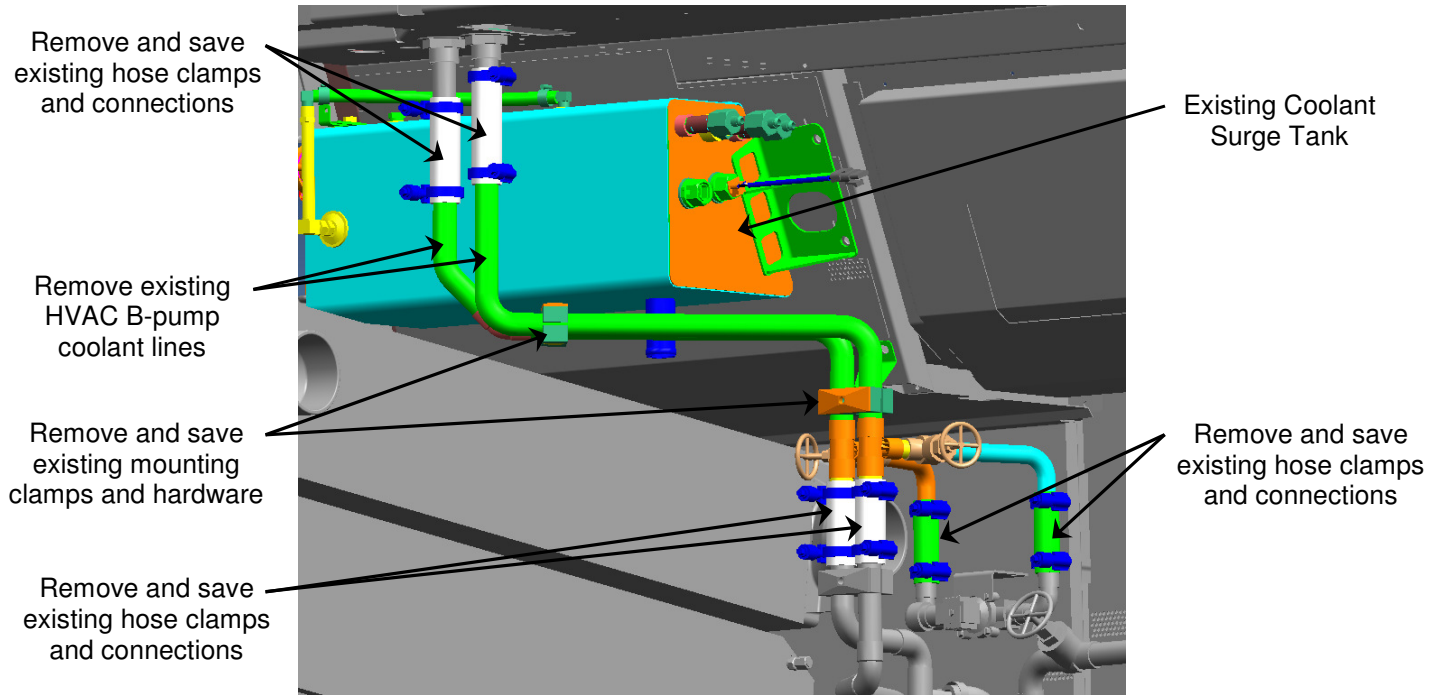

Figure 6: HVAC B-pump Coolant Line Removal
11. Remove and save the existing HVAC B-pump coolant lines that run underneath the surge tank as well as the existing hose connections, clamps and hardware for reuse later in this install. See Figure 6.
- 28. Re-install the HVAC coolant lines, clamps and connectors that run underneath the surge tank removed in Step 11. Reference Figure 6.